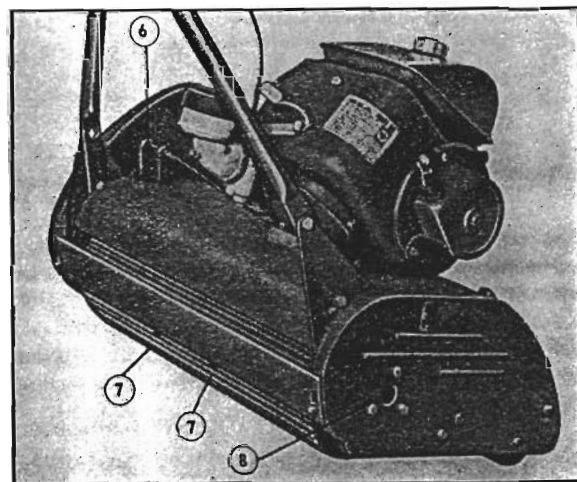

Fig. 12
6. Landroll Spindle bearing through nipple available through top deck. (fig. 12). 18-INCH MACHINES ONLY.
7. Landrolls through nipples below the surface. (fig. 12).
8. Landroll Spindle bearing through nipple in R.H. end of spindle. (fig. 12). 18-INCH MACHINES ONLY.